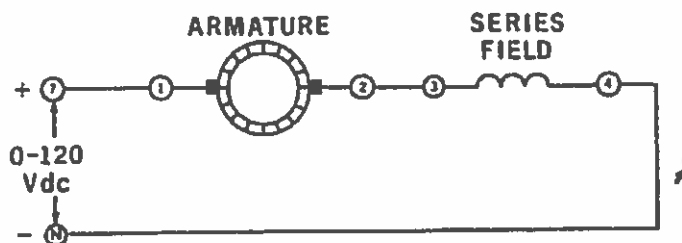
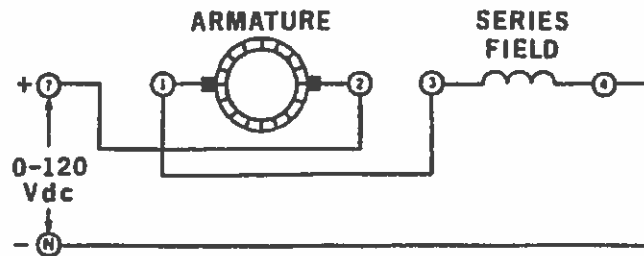

Figure 12-2.
Figure 12-3.
5. Using your Power Supply, DC Voltmeter/Ammeter and DC Motor/Generator, connect the circuit shown in Figure 12-2. Notice that the armature is connected in series with the series field winding, across the input voltage.
- ☒ 9. Reconnect your circuit as shown in Figure 12-3. (The only change made to the circuit of Figure 12-2 is that the connections to the armature have been reversed).
- ✓ 10. Repeat procedures 6 through 8 (using the reversed armature connections shown in Figure 12-3).